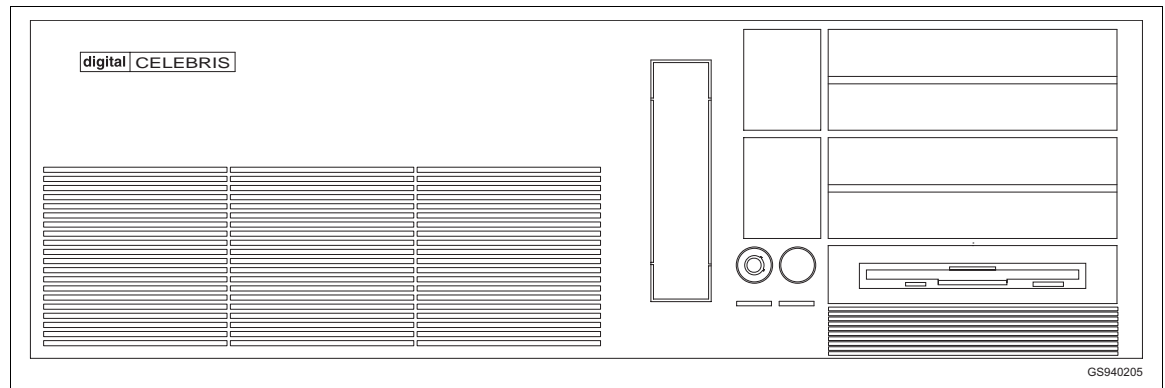
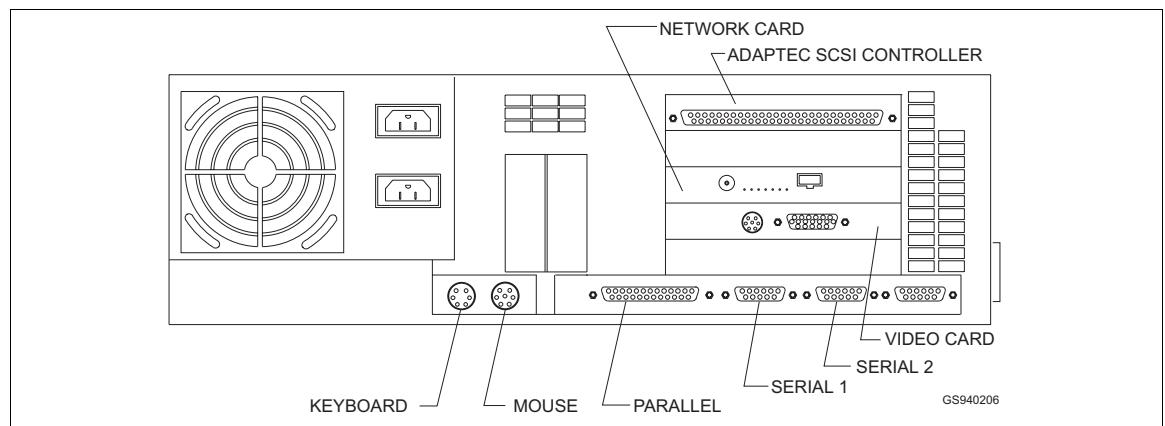
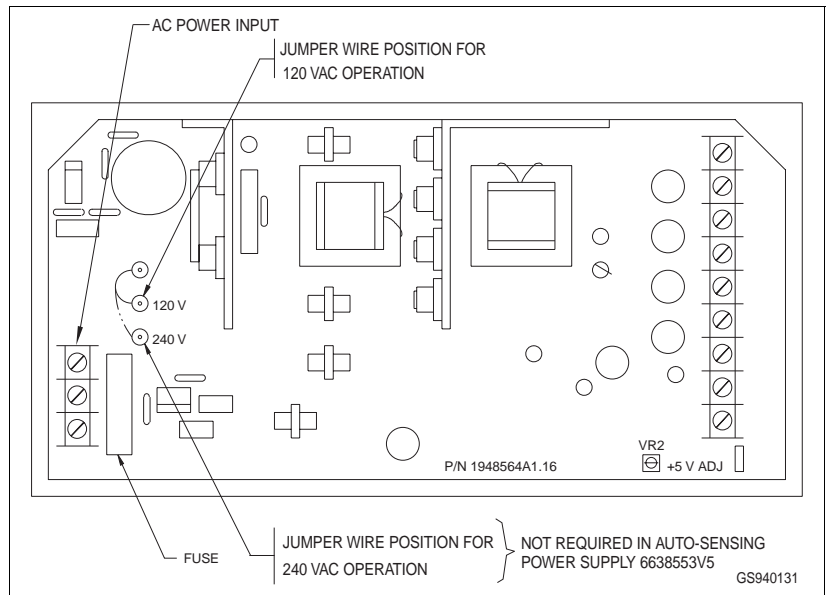
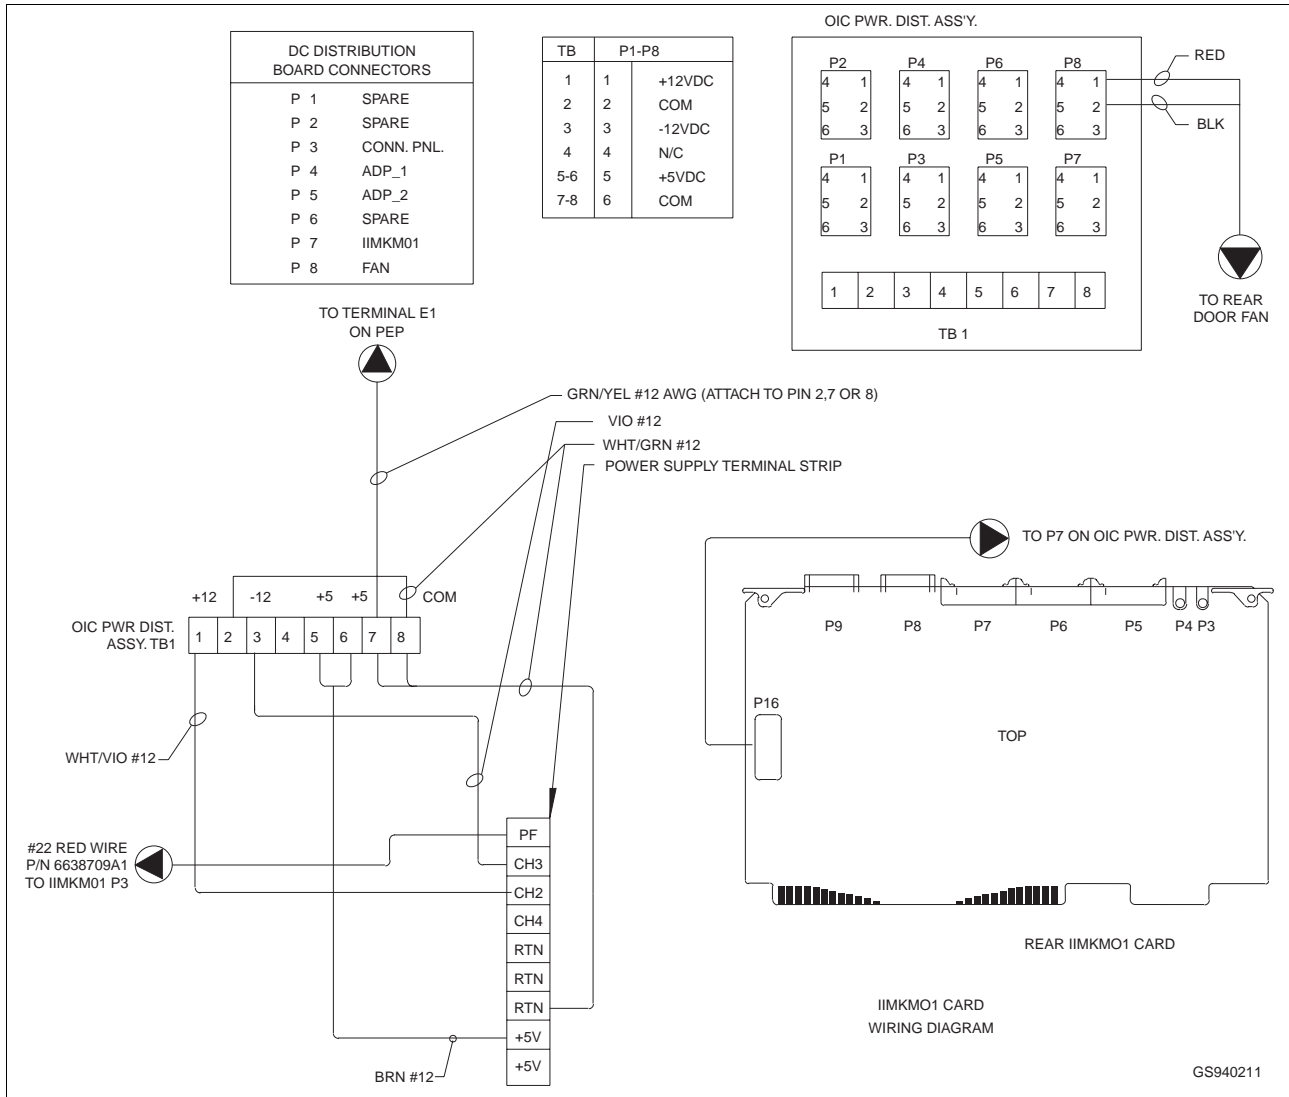

Figure 5-4. Computer Front View
Figure 5-5. Computer Back View
Figure 5-17. IIOIC12 Main Power Supply
Figure 5-18. IIOIC12 Power Connections
Figure 5-4 shows the front view of the computer. Figure 5-5 shows the back view of the computer.
To change the IIOIC12 to operate on 240 VAC, set the slide switch (if present) on the back of the computer power supply to the 240-VAC setting (Figure 5-5). Also change the main power supply jumper and fuse for 240-VAC operation (Figure 5-18), if required.
The IIOIC12 130 watt main power supply (Figure 5-17) provides power to the console. Figure 5-18 shows the connections from the main power supply to the DC distribution board and to the multibus mylar keyboard controller card. The table shown below
in Figure 5-18 lists the power supply connections to the DC distribution board.
NOTE: Figure 5-17 shows P/N 6638553A6. P/N 6638553V5 is similar, but does not have the jumper for 120 or 240 VAC. It is auto-sensing. AC power input terminals on 6638553V5 are connector pins.
1. The 6638553V5 power supply in the console operates on either 120 V or 240 V. When replacing the power supply, check to make sure it is set for the voltage rating of the console, per Figure 5-17. The fuse for 120-VAC should be rated for 5 Amps; 3 Amps for 240-VAC.